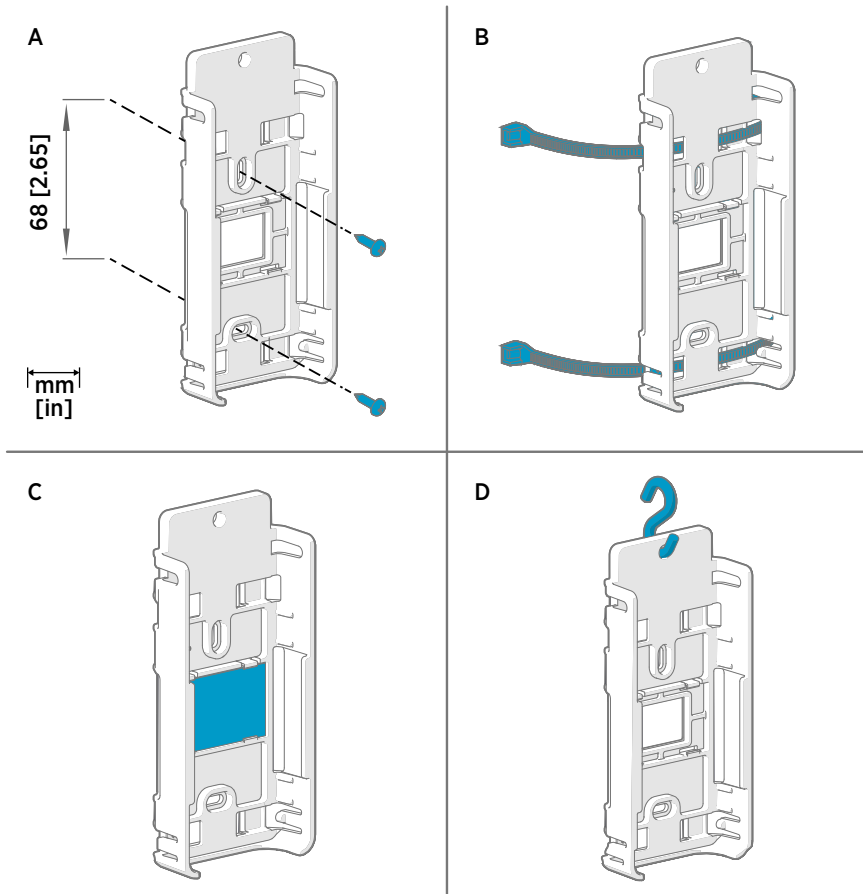

Figure 9 RFL100 Mounting Methods
2. Attach the mounting bracket using one of the mounting methods shown in Figure 9 (page 22). Orient the bracket vertically so that the probe or probe cable points down after installation. Do not attach RFL100 without the mounting bracket.